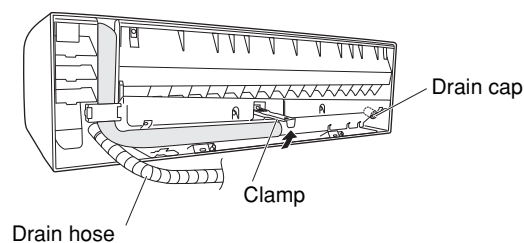

Fig. 39
- (a) Locate the drain hose and the drain cap. (Fig. 39)
- (b) Remove the screw fastening the drain hose on the right side, and pull out the drain hose to remove it. (Fig. 39)